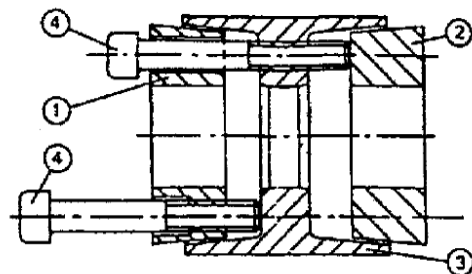

Figure 2
2. Loosen all locking screws by a minimum of 2 turns and transfer at least 2 screws to push off threads in clamp collar item no. 1 and center collar item no. 3 in order to disengage tapers for easy installation of locking assembly (see Fig. 2.).
REMOVAL (refer to fig. 2)